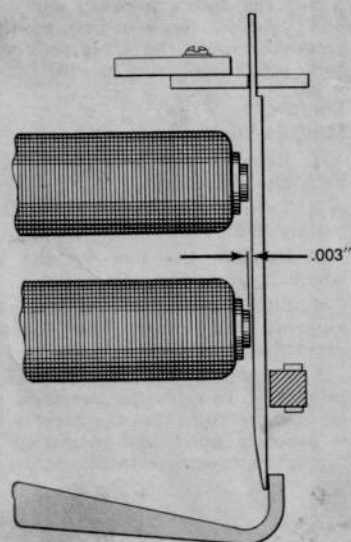

Figure 14. Unlatching Clearance
3. With a .003" feeler gage between the lower core and the armature, the drive rod lever should trip off the end of the armature when the armature is attracted. (Figure 14).